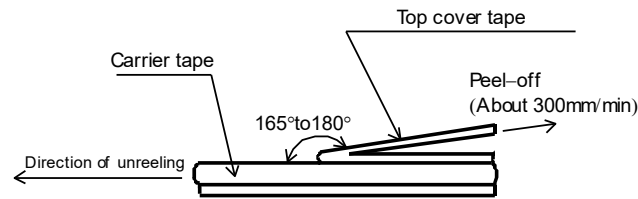
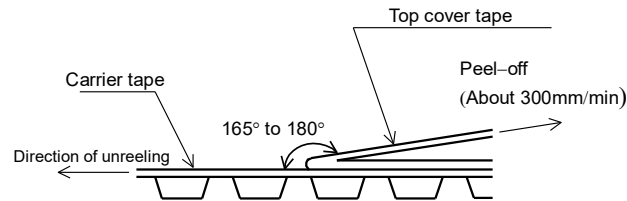

Figure-5
Figure-6
- 5). The peel strength of the top cover tape shall be within 0.1N to 0.5N on the test method as shown in the following RLP16, 20, 32: Figure-5, RLP63: Figure-6.